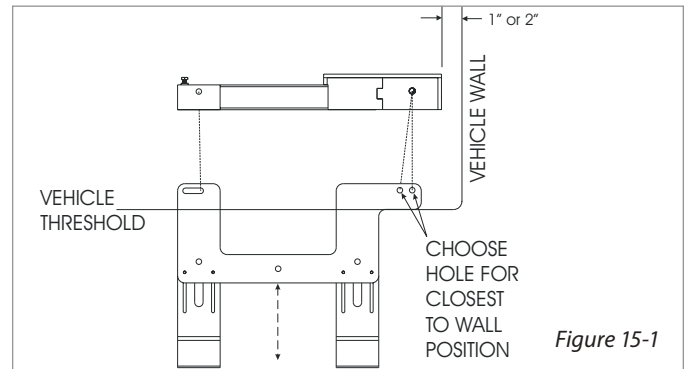
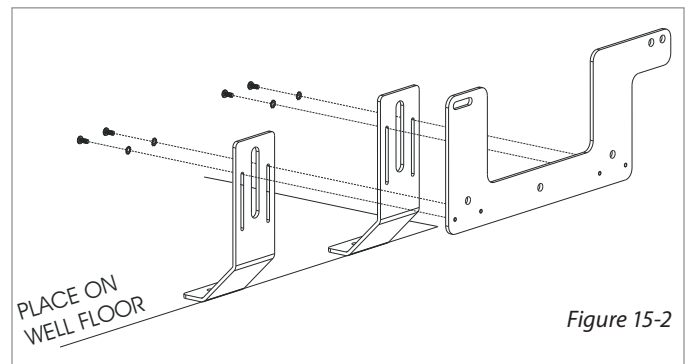

Figure 15-1
Figure 15-2
1. **Place vertical joiner on back wall** of seating well corner. *[Figure 15-1]* Use base as template for position.
2. **Establish height** by having mounting holes show over threshold. *[Figure 15-1]* Attach joiners, using small screws provided, to lock height. *[Figure 15-2]*